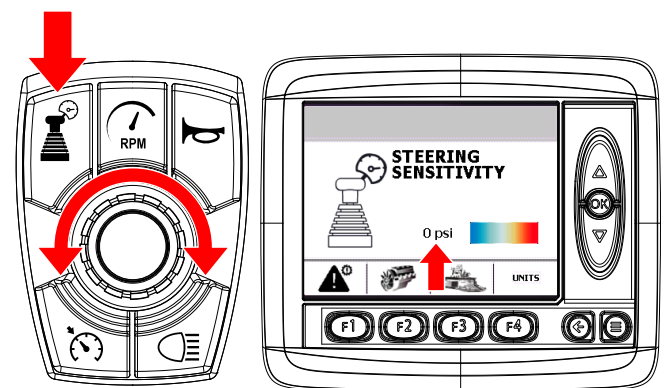

Figure 45. Steering Sensitivity Adjustment
1. Press the **steering sensitivity button** (Figure 45) to view the **steering sensitivity adjustment screen** on the digital display.